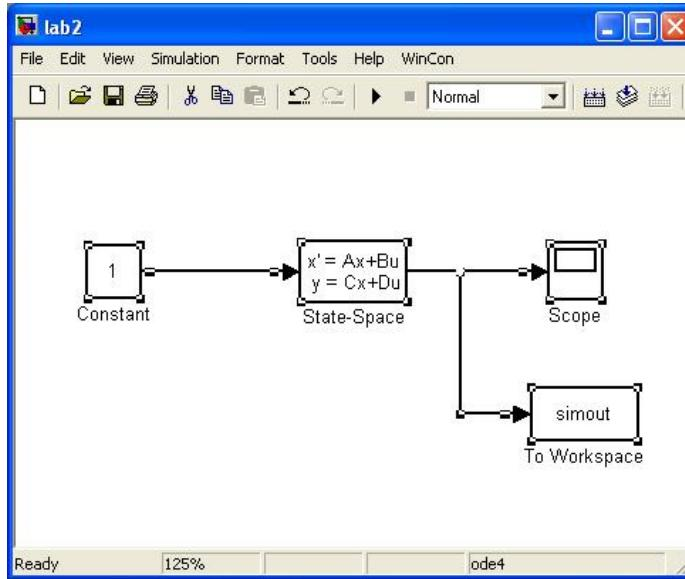

Figure 9.2: Simulink model for Lab 9
1. Build the Simulink model as shown in Figure 9.2. The model applies a constant voltage to the dynamic model defined by  $\mathbf{A}$ ,  $\mathbf{b}$ ,  $\mathbf{c}$ , and  $\mathbf{D}$  defined previously. The output is the current in the circuit.